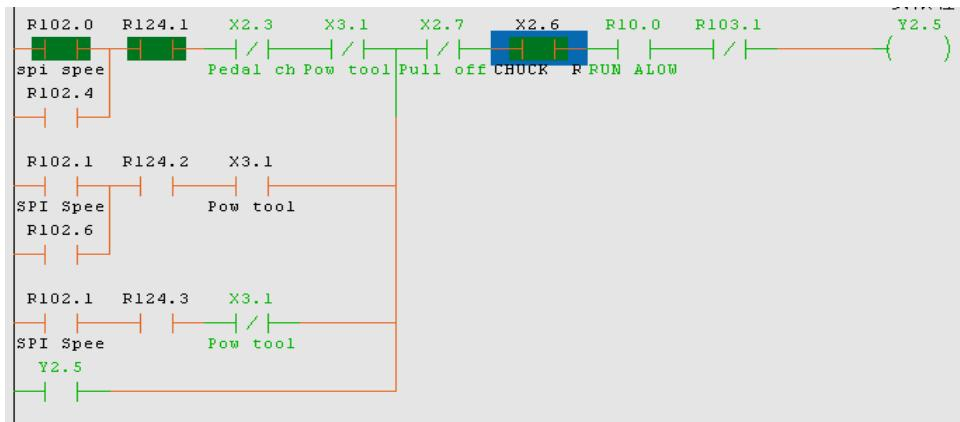

Figure 6.6.5 Force Enable
3. As shown in Figure 6.6.5, force enable R102.0, R124.1 and X2.6.